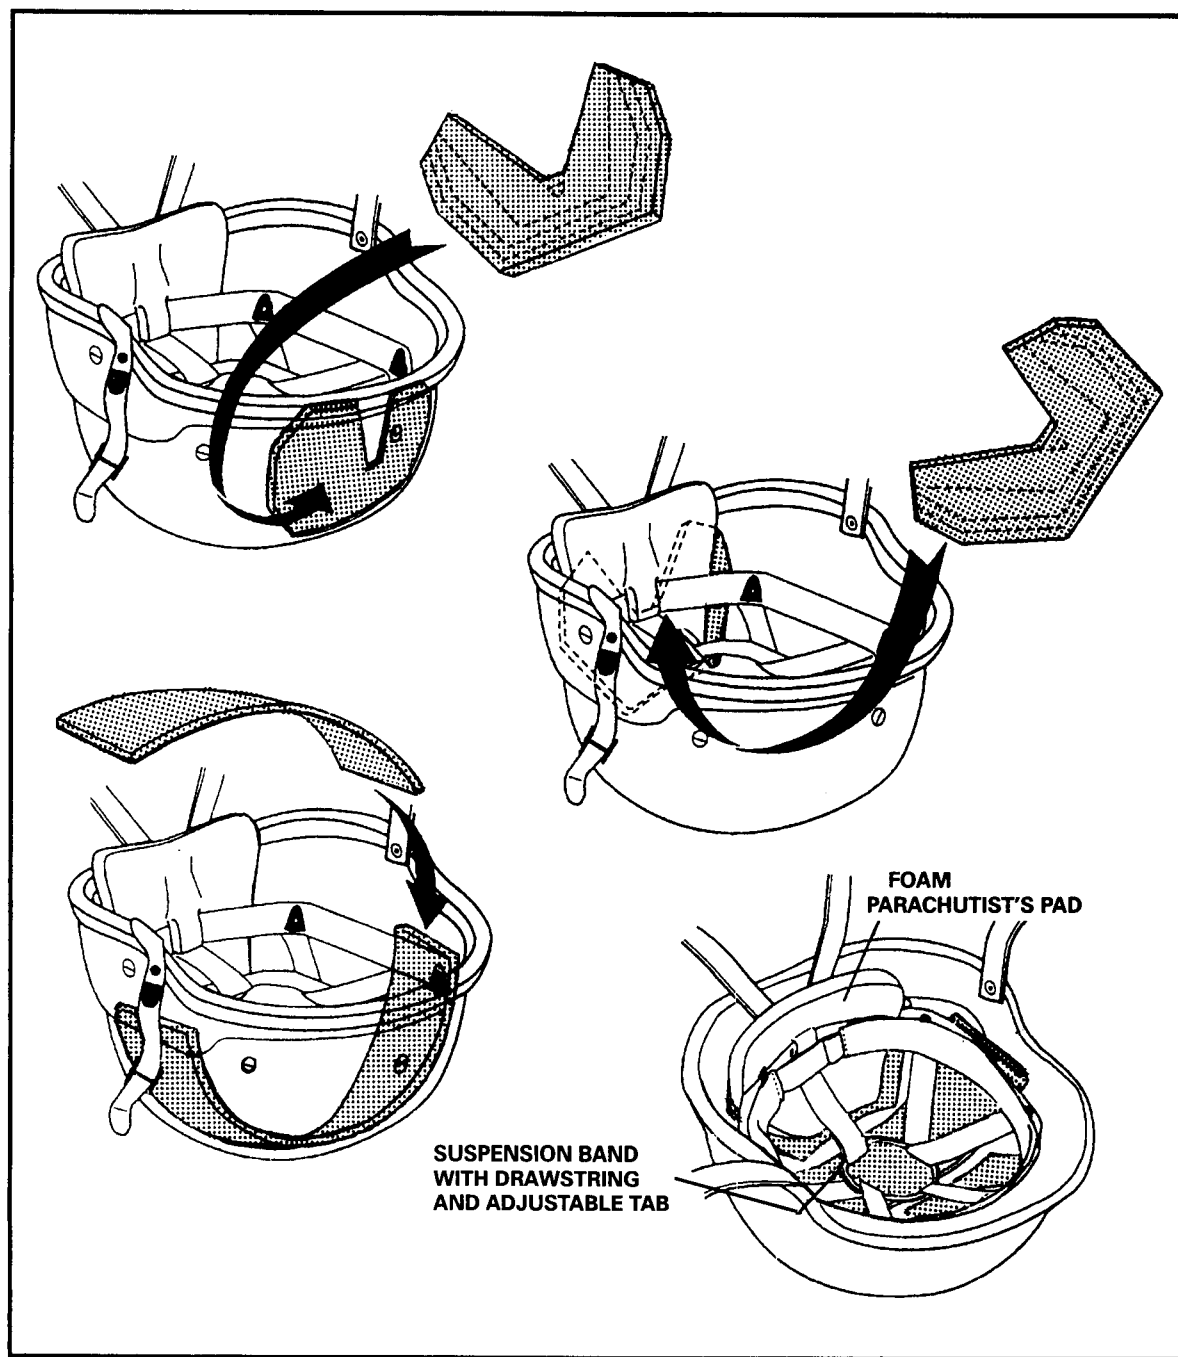

Figure 2-10. Installation of PIL.
(3) Place the insert portions into the helmet so that the front and back pieces and the middle piece are located under both the foam impact pad and the suspension band with drawstring and adjustable tab (Figure 2-10).